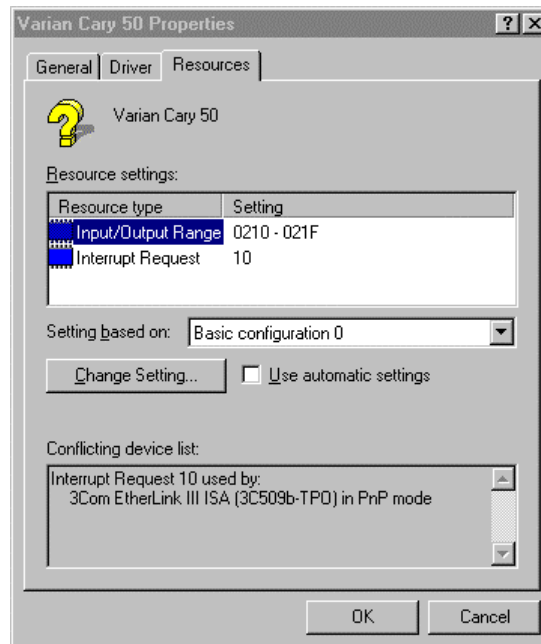

Figure 4-3 Example of Interrupt conflict with the Cary 50
5. On the Resources tab (see Figure 4-3), deselect 'Use automatic settings' and change the Interrupt request of the Cary 50 until the message "No Conflicts" appears in the Conflicting device list.